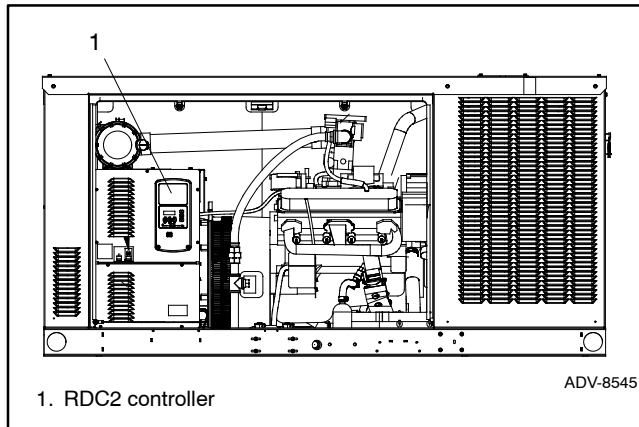
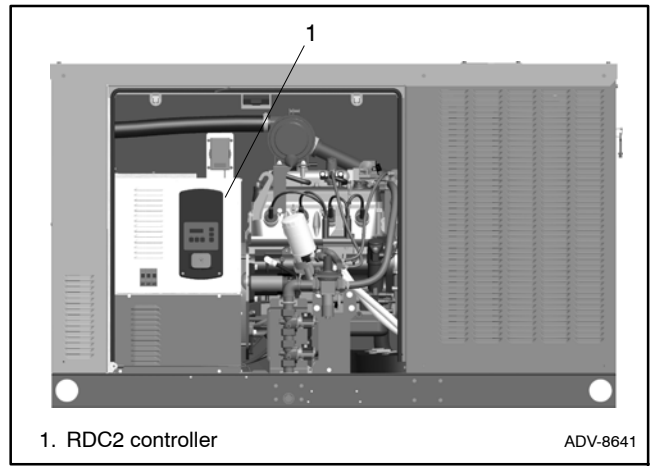

Figure 23 Controller Location, 38/48/60RCL and 48RCLA
Figure 24 Controller Location, 24/30RCL and 38RCLB
2. Using the enclosure locking tool provided with the generator set, open and remove the enclosure door on the service side of the generator set. See Figure 23 or Figure 24.